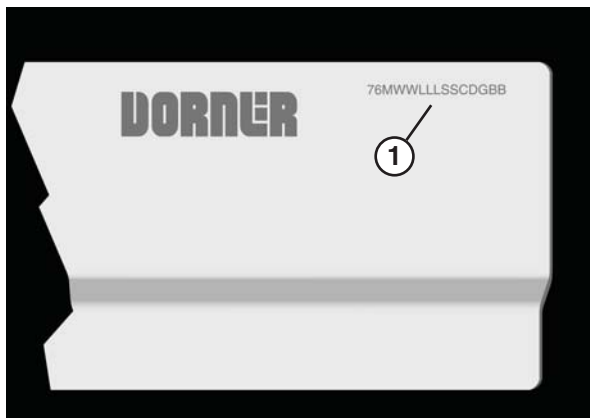

Figure 21
1. Locate the section number sequence etched on each section of frame (Figure 21, item 1).